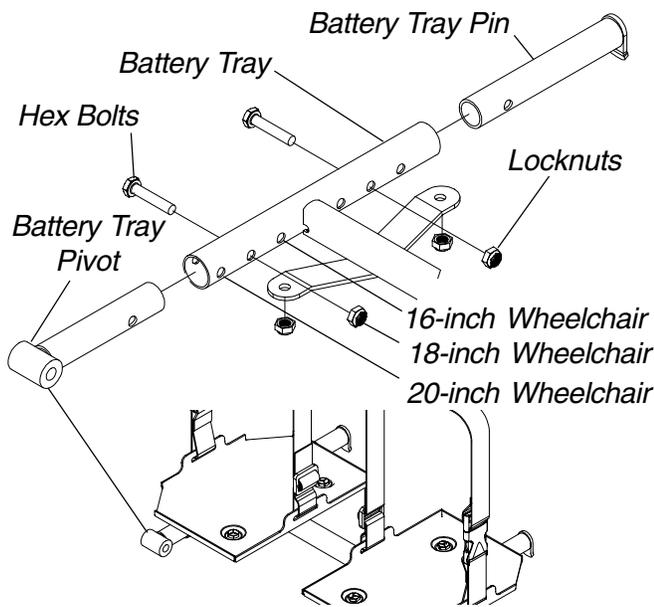
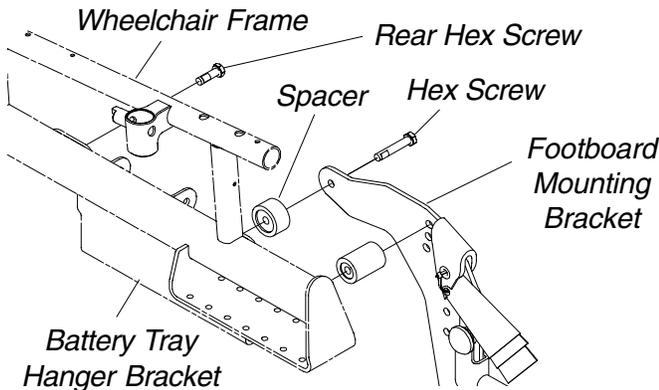

FIGURE 22 - BATTERY TRAY - CHANGING WIDTH OF BATTERY TRAY
FIGURE 24 - BATTERY TRAY - REPLACING RIGHT BATTERY TRAY HANGER BRACKET
**Changing Width of Battery Tray (FIGURE 22)**
- Remove the hex bolt and locknut that secure one (1) of the battery tray pins to the battery tray.
- Refer to FIGURE 24 to determine mounting hole in the battery tray that corresponds to width of the wheelchair.
**Replacing Right Battery Tray Hanger Bracket (FIGURE 24)**
3. Perform one (1) of the following: